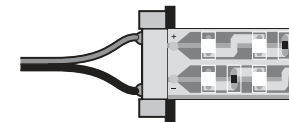

fig. 3
3. Plug the feed connector onto the end of the LED board (observe the polarity) and close the lock (fig. 3).